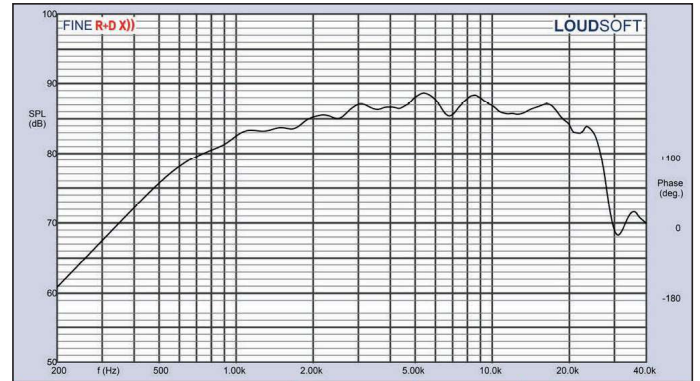
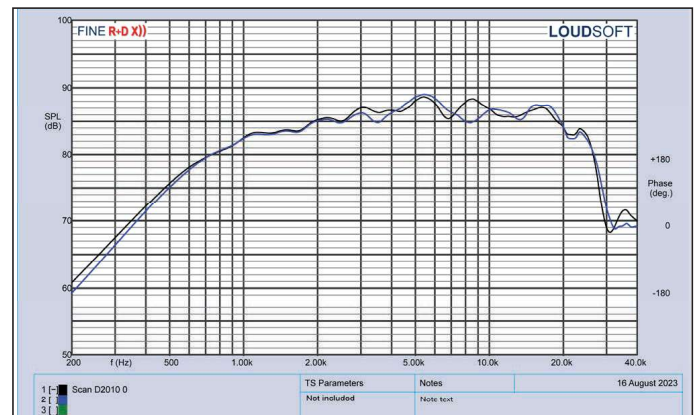

Figure 2: Scan-Speak D2010/852100 on-axis response
Figure 3: Scan-Speak D2010/852100 on-axis response (black curve) compared to the D2008/852100 on-axis response (blue curve)
**Figure 2** shows the on-axis response for the D2010, which exhibited a ±1.5dB response from the 4kHz recommended crossover frequency to about 18.5kHz. **Figure 3** shows an on-axis comparison of the D2010 and the nearly identical D2008.